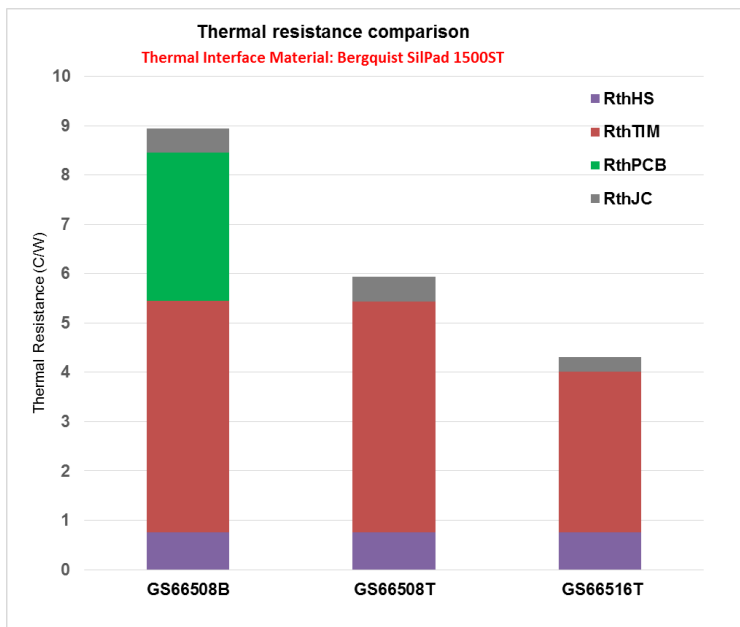

Figure 9 Evaluation board thermal resistance comparison
- The TIM we use on this assembly is Bergquist® SilPad 1500ST, the measured total thermal resistance can be found in Figure 9. Compared to bottom cooled design, T package eliminates the PCB thermal resistance and significantly improve the thermal performance. Thermal grease is typically not needed on the assembly. If thermal grease is to be applied, use non-conductive and non-capacitive type thermal grease.